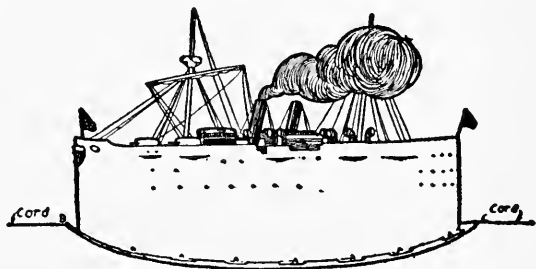

FIG. 353.—A Battleship.
**Battleships** should be made out of cardboard as shown in Fig. 353, with the masts reënforced at the back with strips of wood, and the rigging made with heavy thread. It will be well to have a number of pictures from which to work in drawing and painting the various ships of your fleet. The hull of each ship should be curved as